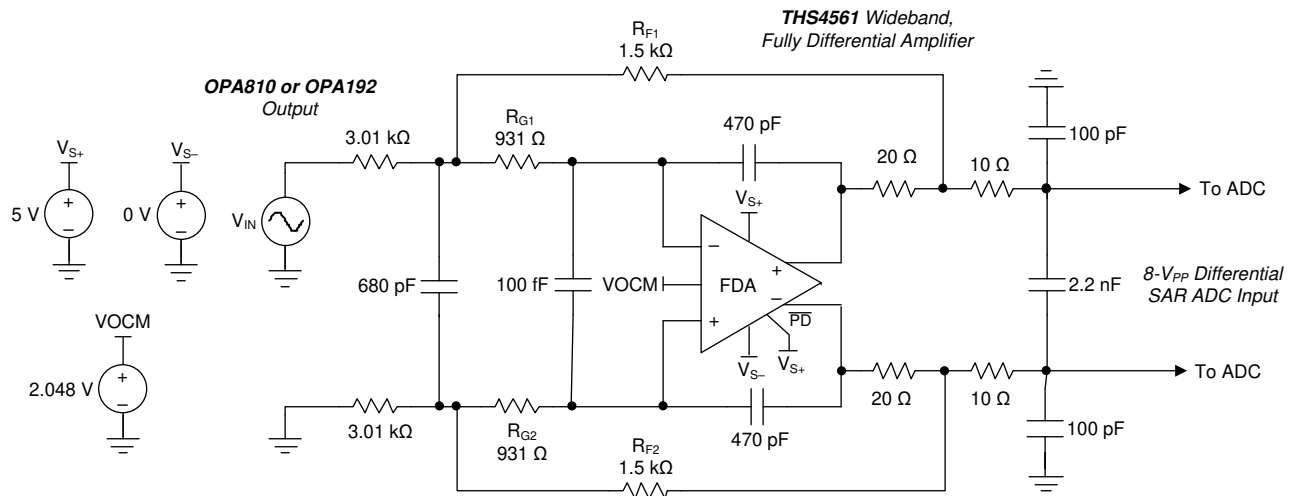
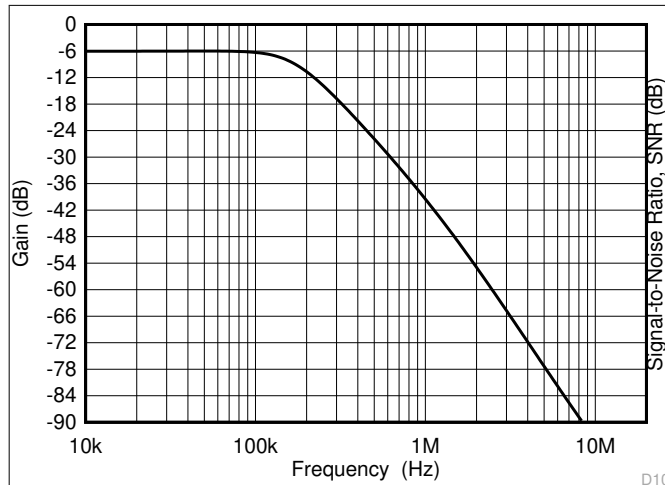
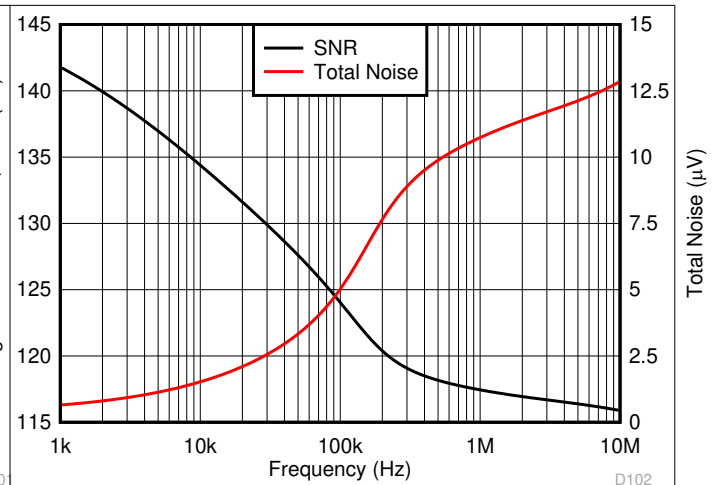

图 10-7. MFB Filter Driving an ADC Application:
图 10-8. Gain Plot for a 170-kHz Butterworth Filter
图 10-9. Signal-to-Noise Ratio and Total Noise Plot
One common application for the THS4561 is to take a single-ended, high V_{PP} voltage swing (from a high-voltage precision amplifier such as the OPA810 or OPA192) and deliver that swing to precision SAR ADC as a single-ended to differential conversion with output common-mode control and implement an active 2nd-order multiple feedback (MFB) filter design. Designing for a 16- V_{PP} maximum input down to an 8- V_{PP} differential swing requires a gain of 0.5 V/V. Targeting a 170-kHz Butterworth response with the RC elements tilted towards low noise gives the example design of 图 10-7. The V_{CM} control is set to half of a 4.096-V reference, which is typical for 5-V differential SAR applications. With the high voltage capabilities of the THS4561, the design can be easily adopted for 20- V_{PP} input swing to the FDA for a full 10- V_{PP} swing into 5-V differential SAR ADC by simply using wider power supplies for the THS4561 to allow for increased output swing headroom with minimal performance degradation.
- Include a place for a differential input capacitor (illustrated as 100 fF in 图 10-7)
图 10-8 和 图 10-9 显示电路的增益响应和噪声结果。图 10-7 显示了一个用于差分输入电容器的位置（显示为 100 fF），但未用于在此部分中显示的模拟结果。图 10-8 的结果显示了一个平坦的 Butterworth 滤波器响应，该响应通向 ADC 的输出节点。获得 ADC 输入引脚的 SNR，并假设 8-V_{PP} 满量程（2.83 V_{RMS}），得到图 10-9 的结果。图 10-9 中显示的 116-dB SNR 和 13-μV_{RMS} 总噪声并不限制任何 SAR 应用的性能。